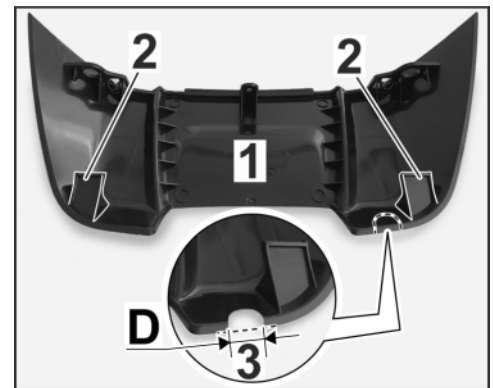

Figure 13
2.4 Make groove for wire harness for retainer plate in cover on antenna (⇒ *Figure 13*).